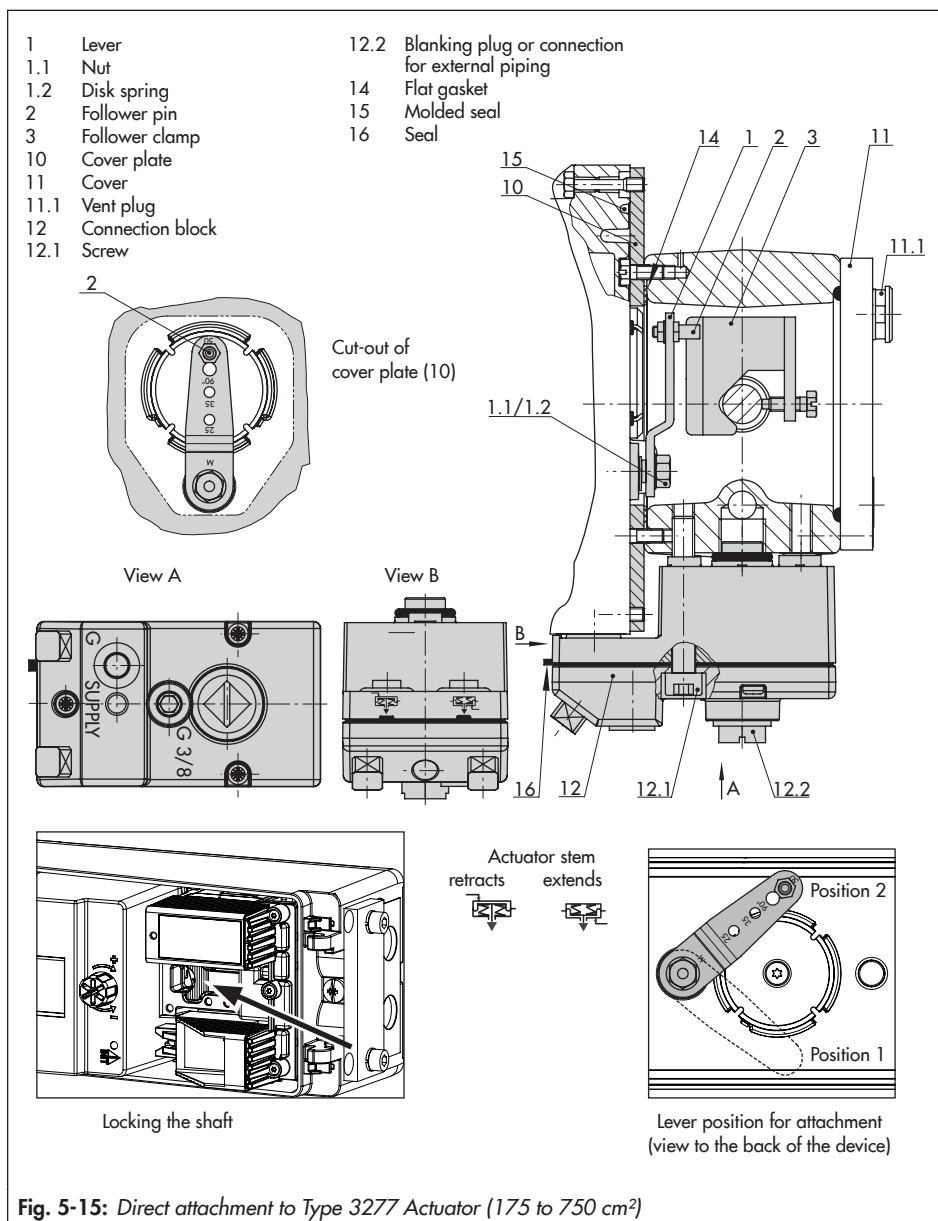

Fig. 5-15: Direct attachment to Type 3277 Actuator (175 to 750 cm²)
To lock the positioner shaft on mounting the positioner on the valve, insert a flat-blade screwdriver into the groove of the limit contact assembly and hold the shaft in position 2 (see Fig. 5-15).
- See Fig. 5-15
1. Place follower clamp (3) on the actuator stem, align it and screw tight so that the mounting screw is located in the groove of the actuator stem.
2. Mount cover plate (10) with narrow side of the cut-out pointing towards the signal pressure connection. Make sure that the glued-on flat gasket (14) points towards the actuator yoke.
3. Check the pin position of the follower pin (2) on M lever (1). Refer to travel tables for type of attachment. If necessary, change the pin position (see Chapter 5.2.1).
4. Insert molded seal (15) into the groove of the positioner housing.
5. Turn the lever counterclockwise until the spring force can be felt (position 1). Continue to turn the lever further to position 2 (see Fig. 5-15, bottom right).
6. Press the shaft lock (see Fig. 5-15, bottom left) to hold the lever in position 2.
7. Place positioner on the cover plate in such a manner that the follower pin (2) rests on the top of the follower clamp (3). The lever (1) must rest on the follower clamp with spring force.
9. Press the shaft lock of the prepared positioner (see Fig. 5-15, bottom left) and hold the lever in position 2.
10. Place positioner in such a manner that the follower pin (2) rests on the top of the